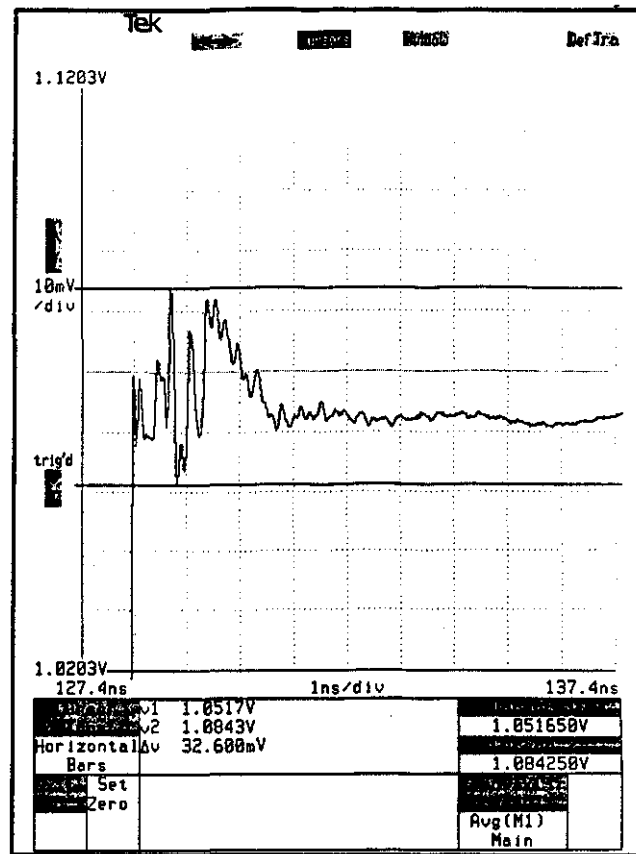

Fig. 4-3. Measurement of step 3 peak-to-peak aberration of adjacent peaks.
- m. CHECK — that the peak-to-peak aberration (delta V) is less than 4% of the amplitude recorded in step 1. See Fig. 4-3.